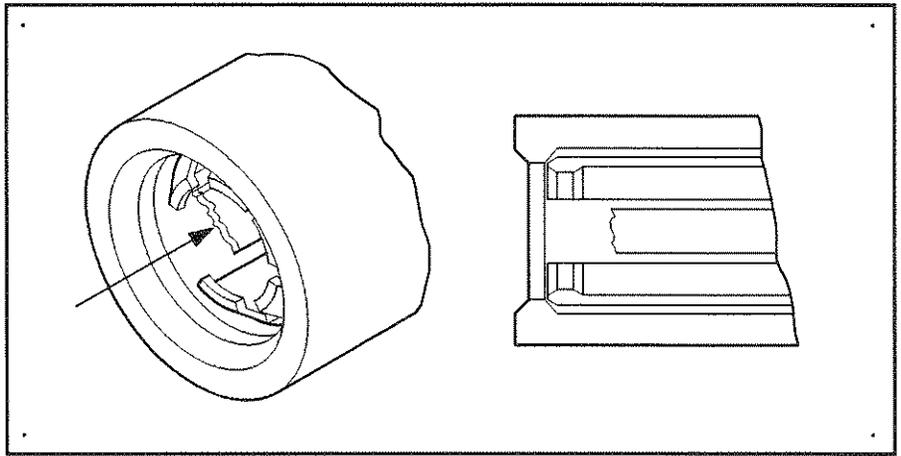

Figure A-5. Broken Inner Contact
- The inner contact has one or more fingers broken (see Figure A-5).